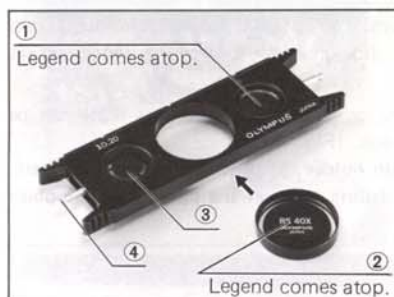

Fig. 15
Put the light annuli for 4X (1) and 40X (2) objectives into the phase slider. The annulus (3) for 10X is also used for 20X objectives. The annuli for 4X and 10X (20X) objectives are centered by means of the centering lever (4). (Fig. 15)